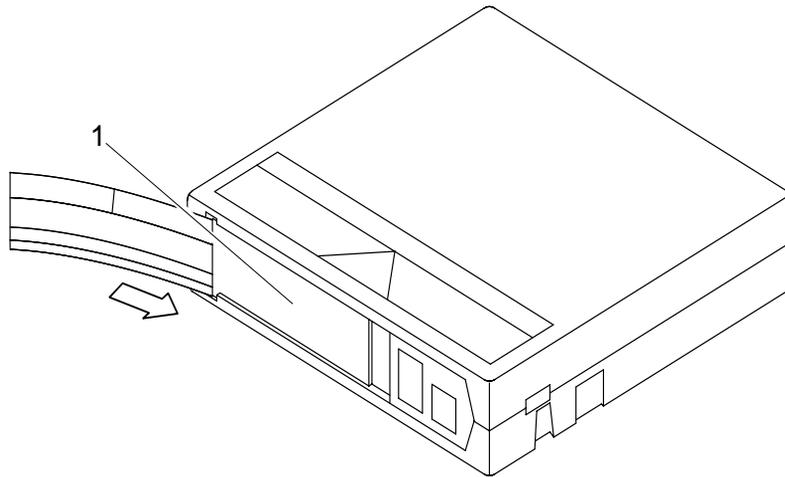

FIGURE 2-19 Inserting a Bar Code Label
- Place the label in the slide-in slot on the front of the cartridge as shown in FIGURE 2-19.